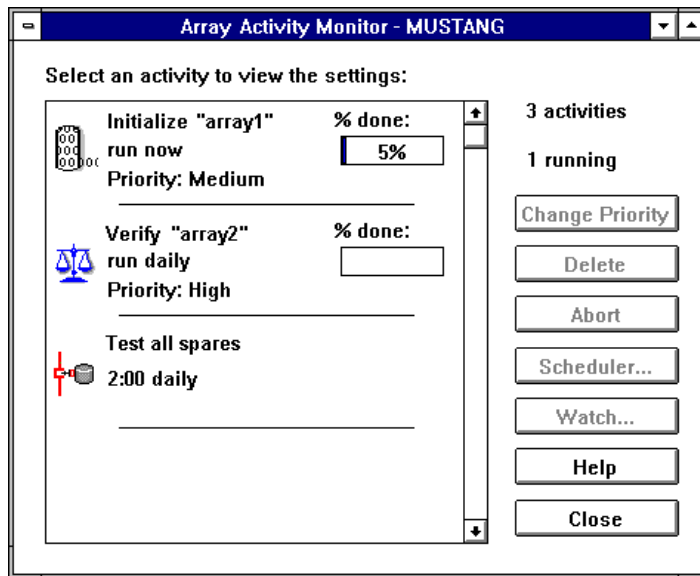

Figure 6-2. Array Activity Monitor Window
- 1 Select **Activities** from the View menu. The Array Activity Monitor window appears, as shown in Figure 6-2.